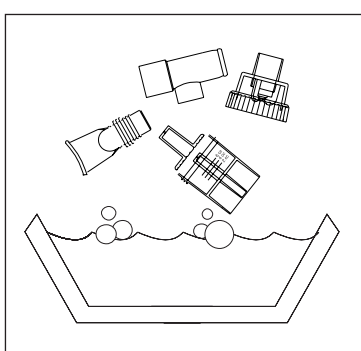

Figure 9/Figura 9
- Using a clean container or bowl, soak items in three parts hot water to one part white vinegar for 30 minutes **Figure 9** OR use a medical bacterial-germicidal disinfectant available through your provider. For reusable nebulizer only, clean daily in dishwasher using top shelf. Be sure to follow manufacturer's instructions carefully.